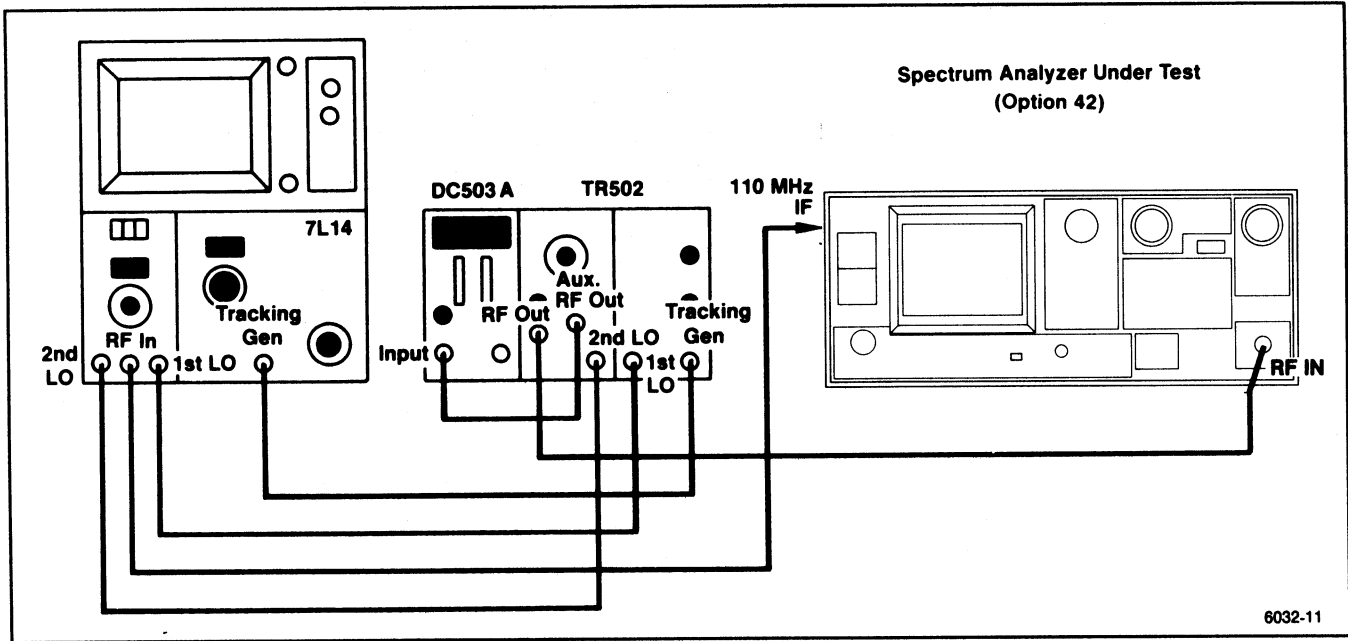

Figure 4-23. Test equipment setup for checking Option 42 frequency characteristics.
a. Connect the test equipment as shown in Figure 4-23.